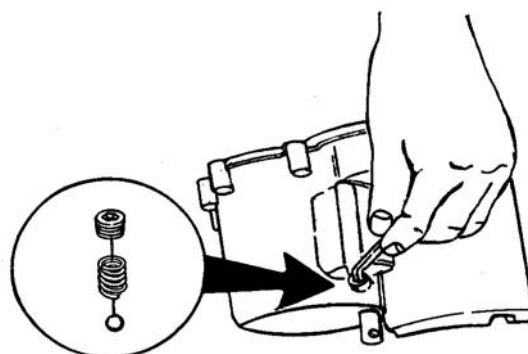

Figure 5-14. Removing Detent Spring and Ball
15. Turn the housing half upside down. Remove the set screw in the housing holding the detent spring and ball in the detent of shifter shaft. See Figure 5-14.